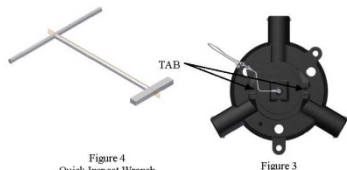

Figure 4
- Using the SALCO Quick Inspect Wrench (blue wrench, Figure 4) - lay the wrench across the tabs (Figure 3) and make 1/4 turn. If you do not have a Quick Inspect Wrench, place a 3/8" flat bar across the set of tabs. With a rubber mallet, tap the bar so it makes 1/4 turn. DO NOT OVERTIGHTEN - over tightening can distort the disc and may affect performance. The ring around the cap is supposed to spin around.